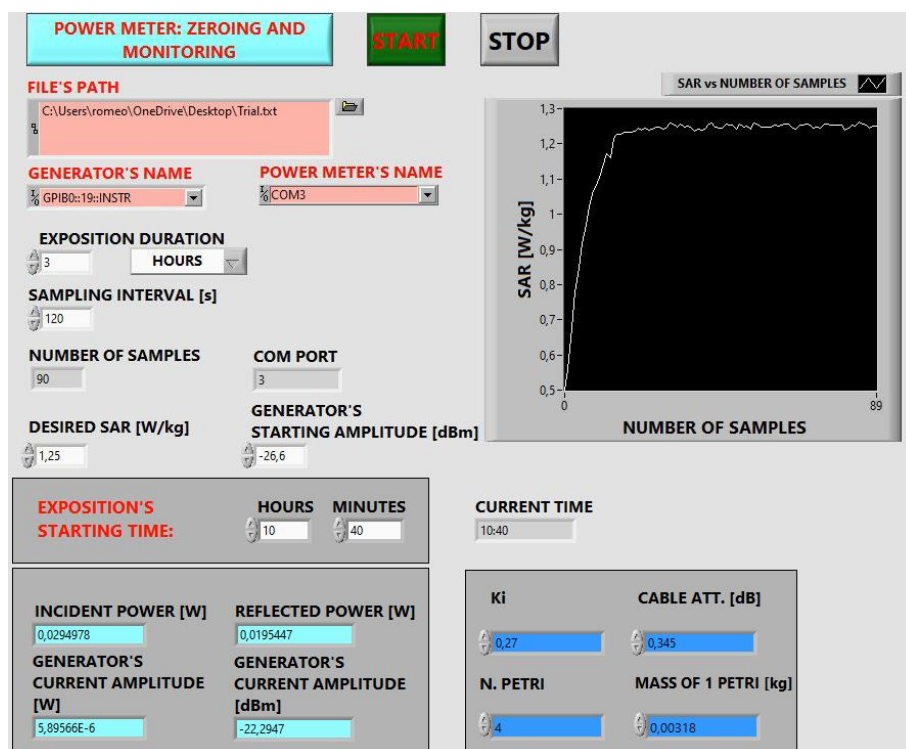

Figure 3. GUI of the Labview program for the control of the exposure setup.
- Set up the exposure conditions in the GUI: exposure duration, sampling interval, desired SAR (that of the central positions of the stands) and exposure starting time (figure 3)